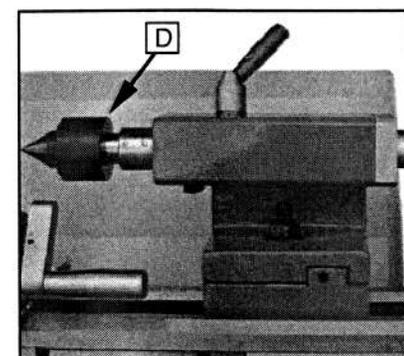

Fig. 29
5. Unscrew the nut (D, Fig.29) from the leadscrew or the nuts (E, Fig.19) from the quadrant bolts in order to remove the change gears from the front.
The live center is mounted in ball bearings. Its use is highly recommended for turning at speeds in excess of 600 RPM. ( Fig.29)